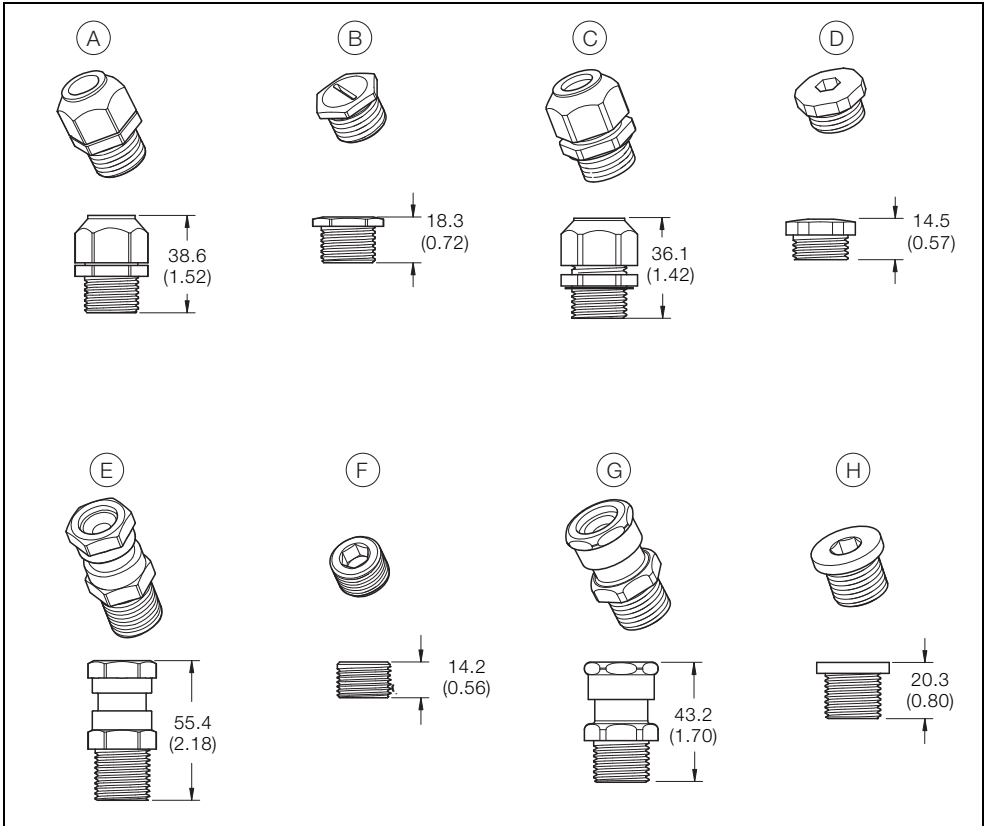

Fig. 4.1 Cable Glands and Plugs
- 2. Route the sensor wiring through one of the three threaded connections and use an appropriate gland in the transmitter housing (refer to Fig. 4.1, page 27 for cable gland options). Note, use of the cable gland is required.